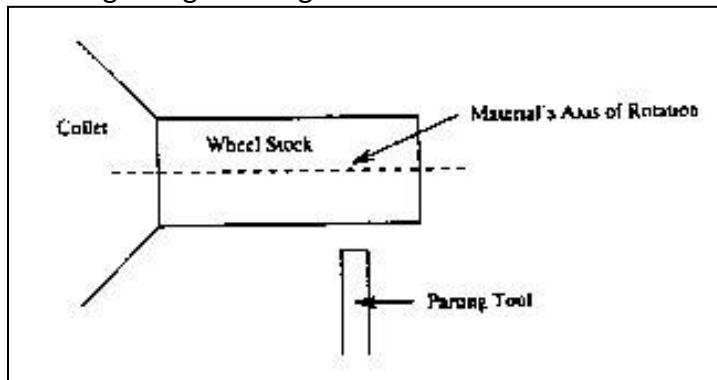

Figure 36: Use The Parting Tool To Cut The Wheels.
6. Obtain a wheel thickness gauge from an instructor. Be certain that the parting tool is at precisely 90deg to the longitudinal axis of material; to do this, place the side of the parting tool against the faced off end of your work piece (see Figure 36).
7. Using the parting tool and wheel gauge (measure thickness of wheel with the gage it will be $7/32"$) and slice off four wheels from the stub (Figure 36). Be sure to center this tool as well. Do NOT use auto feed for this process. Be sure to bathe the parting tool and the aluminum piece with cutting fluid continuously as you cut into the aluminum. It is not necessary to feed the parting tool past the center of the aluminum bar stock.